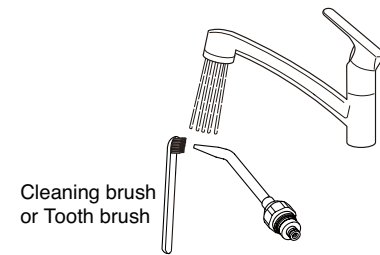

Fig.5-11 Cleaning Belmont 77 Syringe Nozzle
- A. Wipe off the surface contamination by a cloth while rinsing the surface by running clean warm water at 40±5 degrees. Scrub the tip and joint part of nozzle by a cleaning brush or by a tooth brush with running clean warm water at 40±5 degrees. (Fig.5-11)